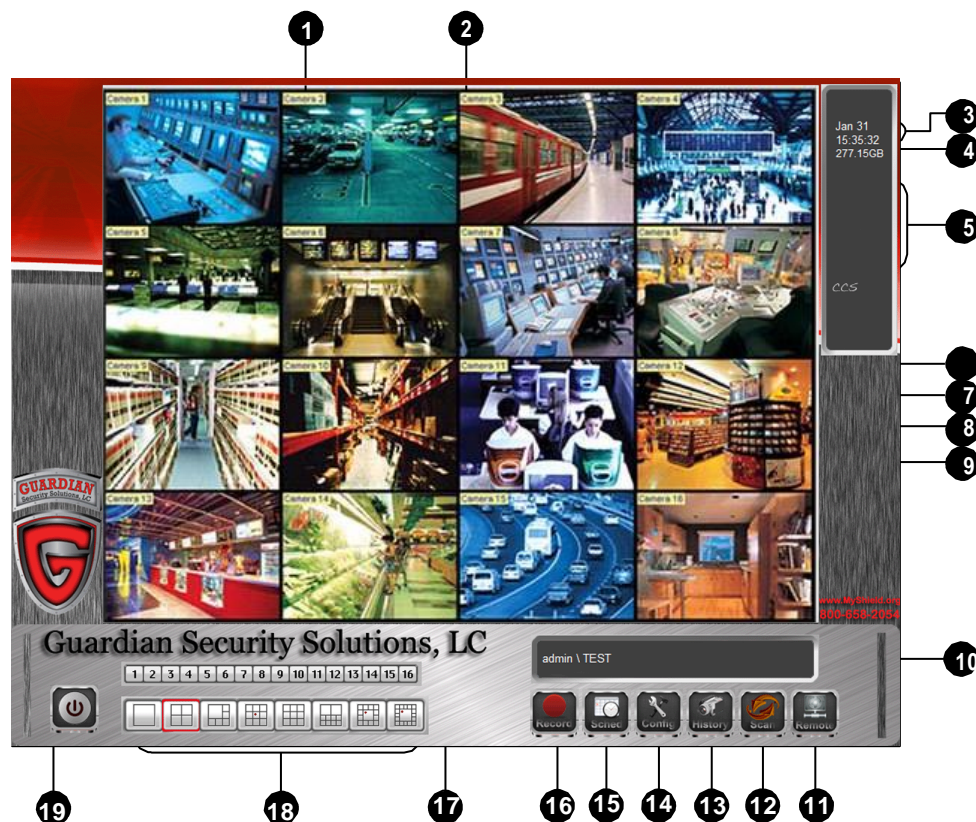

Figure 1-2
To set up cameras on the GV-System, click the **Configure** button (No.14, Figure 1-2), select **System Configure** and click **Camera Install**.
To start recording, press **[F7]** on the keyboard, or click the **Monitor** button (No. 16, Figure 1-2) and select a camera. By default, every camera records with the following settings:
- ⑩ To instantly play back the events of one single channel, click on the **Camera Name** (No. 2, Figure 1-2), and select the time length.
- ⑩ To instantly play back the events of all channels, click on the **ViewLog** button (No. 13, Figure 1-2), select **Instant Play**, and select the time length.
Let's start with the options on the General Setting dialog box. Changes made on the **General Setting** dialog box would apply to all available cameras attached to the system. Click the **Configure** button (No.14, Figure 1-2), select **System Configure**, and click **General Setting** to access the following dialog box.
Click the **Configure** button (No. 14, Figure 1-2), select **System Configure**, and select **General Setting**. In the General Setting dialog box, you can see the storage information in the middle as illustrated below.